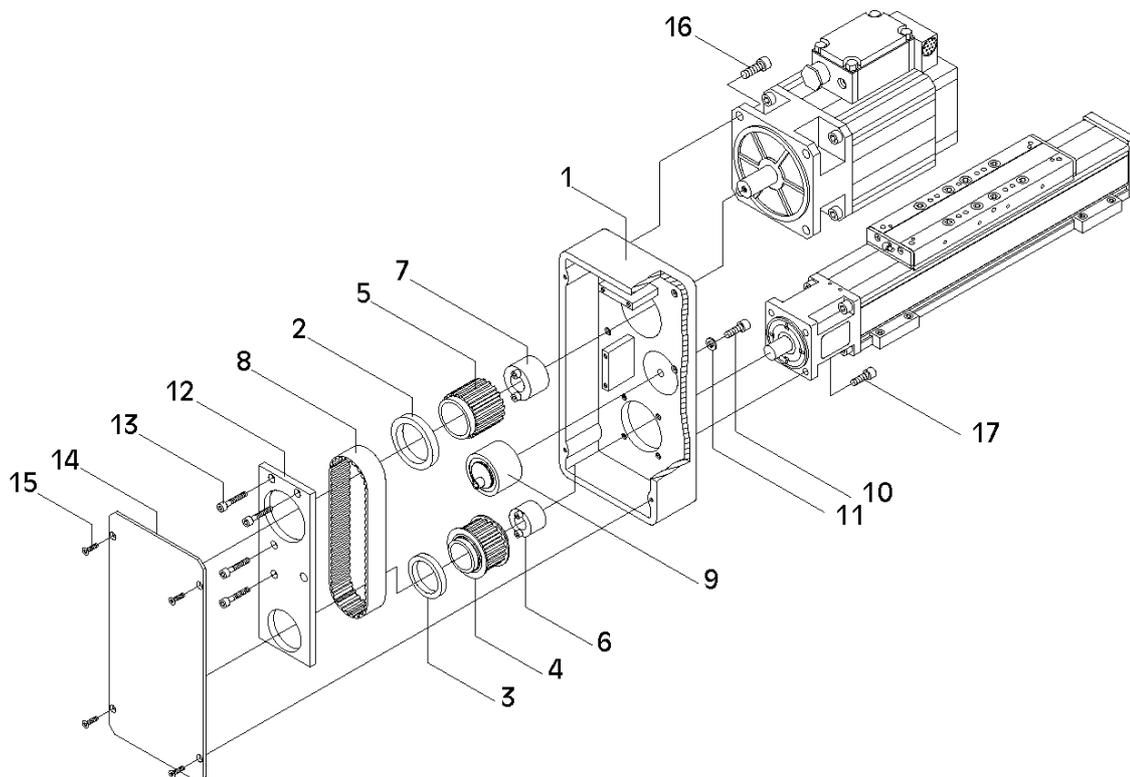

Fig. 11
1. Fig. 11: Attach WIESEL linear drive unit and motor to housing (1).
4. Insert toothed belt (8).
5. Insert tensioning roller (9) in housing, and fix with screw (10) and washer (11).
6. Place bearing plate (12) on roller bearing and tensioning roller, and fix with screws (13).
7. Fig. 11: Detach screw (10) from tensioning roller, and tighten tensioning roller anticlockwise with a SW8 hexagonal wrench at 0.5 Nm, and tighten screw (10).
8. Attach cover plate (14) with 4 countersunk screws (15).